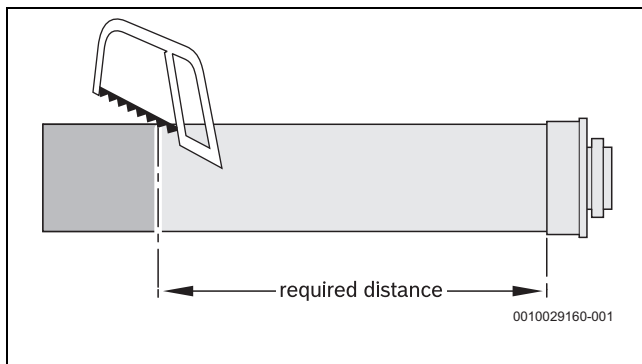

Fig. 25 Cutting the flue extension
- ▶ Mark the flue extension to the required distance, measuring from the socket end as shown in fig. 25.